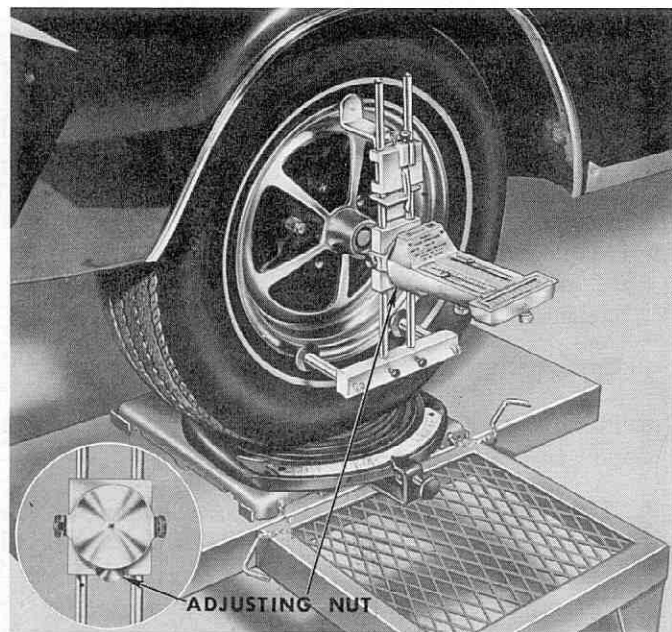

Figure 16—Universal wheel rim adaptor
For small wheels (down to 8 inches), loosen the two knurled screws at the base that fits against the lower part of the wheel rim (see Figure 16). Slide it to the upper set of screw holes. Be sure that the tips of the knurled screws are in
2. Place the magnetic gauge on the adaptor as shown in Figure 16.